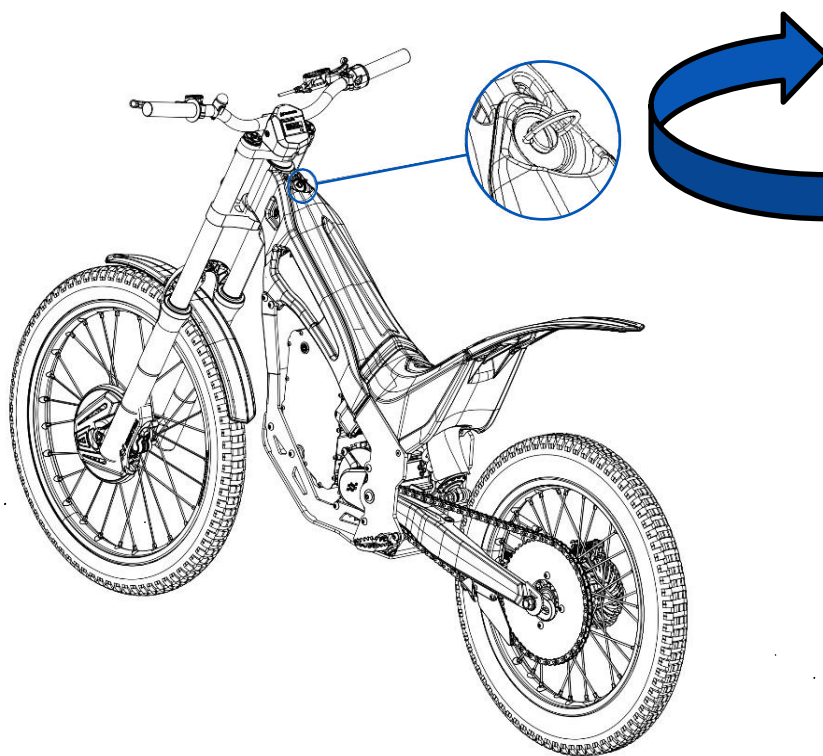

Fig. 43
- 7- Next, turn the quick-release screw (Figure 43) half a turn to the right and make sure that the upper casing is properly fixed to the frame.